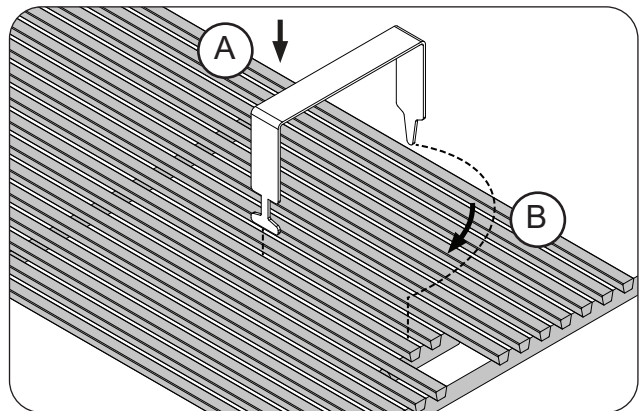
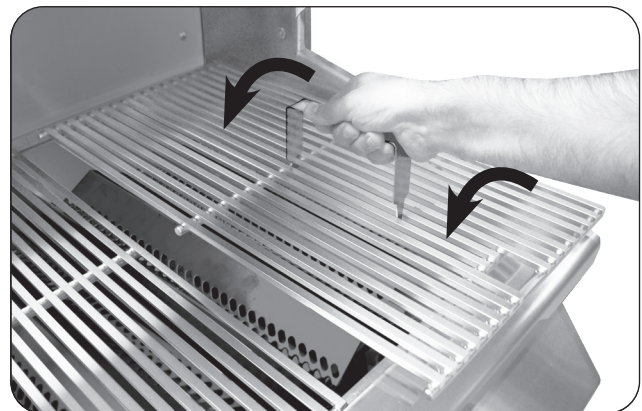

Fig. 27-2 Install cooking grids
Fig. 27-3 Install cooking grids
1. With the prongs facing downward, insert the notched-end of the lifter between two grid rods, then rotate, as shown in Fig. 27-2, A & B.
2. Insert the rear pointed-end of the lifter between the same two rods (see Fig. 27-2, B) and carefully lift the cooking grid and place onto the front and rear grid rests of the grill (see Fig. 27-3). Repeat for all other cooking grids.